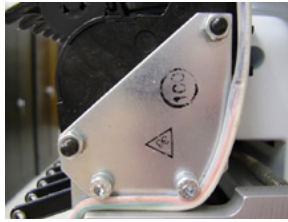

Figure 4 - Thread Feeder Assembly, Right Thread
6. Remove the two socket head screws on the right side as shown in Figure 4 above.
10. Replace and tighten the two bolts on the right side as shown in Figure 4 above. Tighten the bolts only enough to secure the bracket to the needle case.